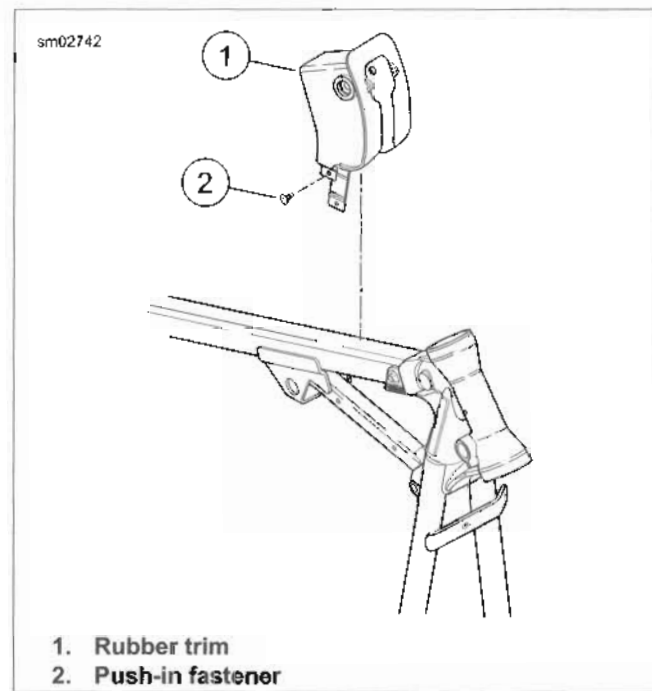

Figure 7-110. Rubber Trim
15. See Figure 7-110. Remove push-in fastener (2) from rubber trim (1) on frame. Disconnect connectors:
4. See Figure 7-110. Install push-in fastener (2) to rubber trim (1) on frame.